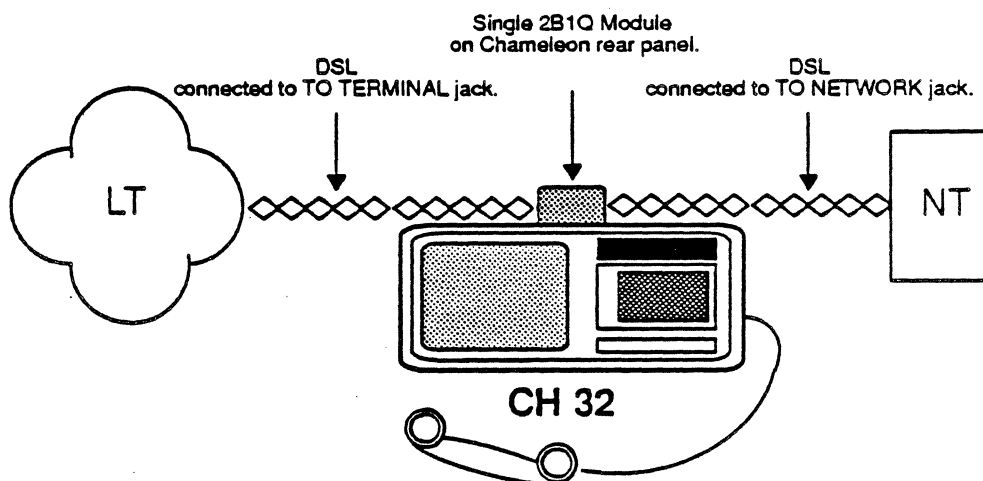

Figure 22.2: The Chameleon 32 in the Monitoring Application.
TO NETWORK	An RJ45 connector acting as an input/output port for the bit stream being monitored. This port can only be configured as an LT. See Figure 22.2.
TO TERMINAL	An RJ45 connector acting as an input/output port for the bit stream being monitored. This connector can only be configured as an NT. See Figure 22.2.
ANALOG IN	A connector for attaching an analog-to-digital device for input having an impedance of 600 $\Omega$ . This input can then be injected into either the B1 or B2 channels. Such a device may be a phone handset (see Figure 22.2), microphone, or any other device meeting the impedance requirement and having the appropriate connector.
Figure 22.2 illustrates the correct setup for 2B1Q monitoring. Only one ISDN PHYSICAL INTERFACE module is required. The use of the telephone handset is optional.
2. Connect your Chameleon to the 2B1Q line as shown in Figure 22.2.